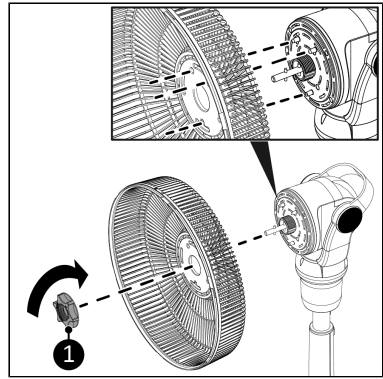

Figure 29.
11. Place the grille nut (Figure 29, pos. 1) and turn it clockwise to secure the rear grille.